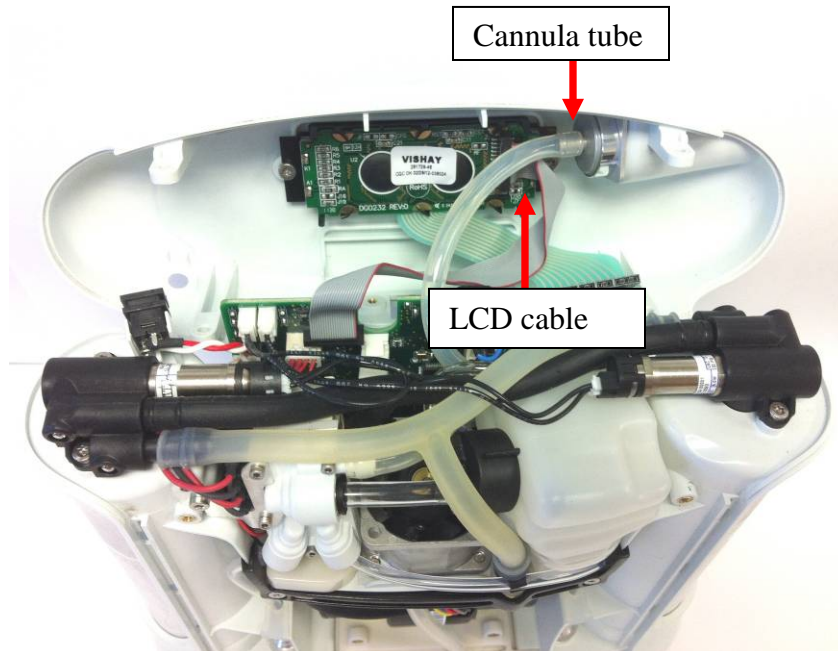

Figure 8: Remove cannula tube and LCD cable from user interface panel
3. Gently unplug the cannula tube and the LCD cable from the user interface panel (Figure 8). Remove the user interface panel.
4. Re-attach the cannula tubing to the cannula connector (Figure 8).